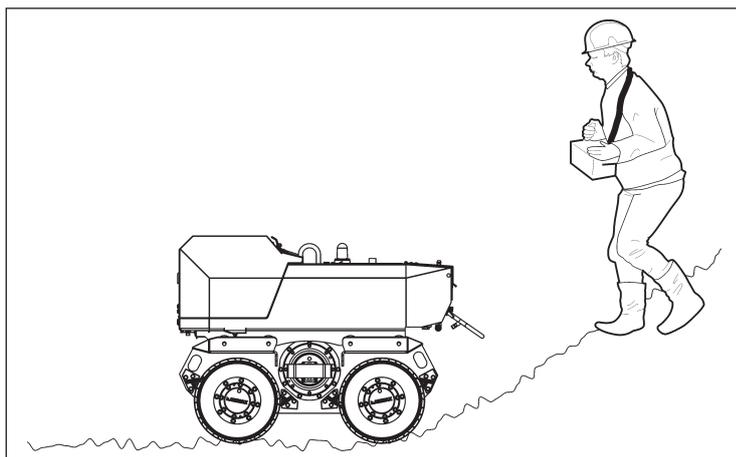

Fig. MB6: Machine at the bottom of an embankment
- ➔ Move the machine backward from below onto the base of the embankment (Fig. MB6).